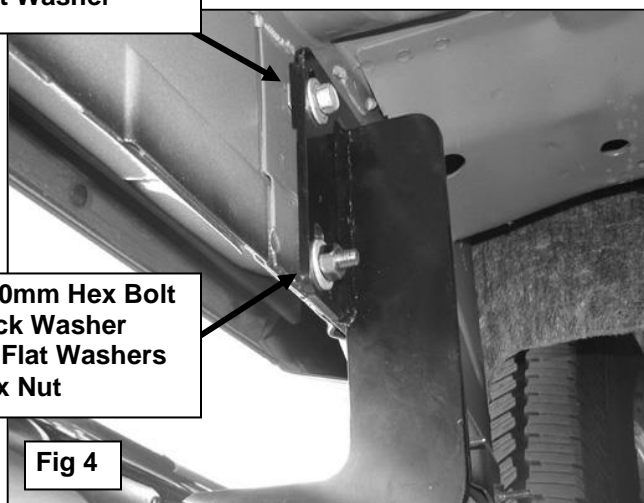

**Fig 2**
- a. **OPTION:** The front Bracket installs with (3) Hex Bolts. If desired, a 4th mounting hole can be drilled through the body panel **(Figure 2)**. Use the Bracket as a template to determine the location to drill. Drill 3/8" if desired. Extra hardware has been provided.